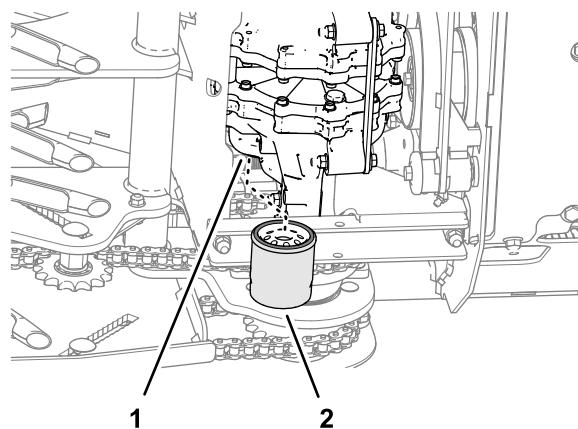

Figure 57
4. Locate the 2 filters under the transmissions (Figure 57).
6. Remove the filters to and allow the fluid to drain from the drive system (Figure 57).
2. Turn the filter clockwise until rubber seal contacts the filter adapter, then tighten the filter an additional 2/3 to 3/4 turn (Figure 57).